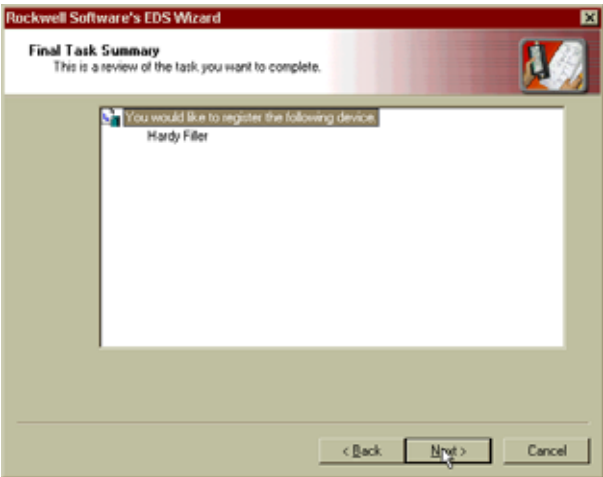

FIG. 117: FINAL TASK SUMMARY DIALOG BOX
- Step 13. Click on Next. The Final Task Summary dialog box appears. (See Fig. 117)